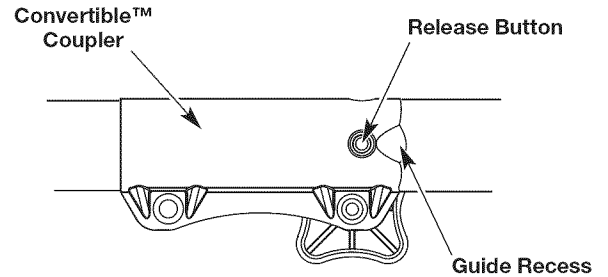

Fig. 9
NOTE: Aligning the release button with the guide recess will help installation (Fig. 9).
2. Press and hold the release button (Fig. 9).